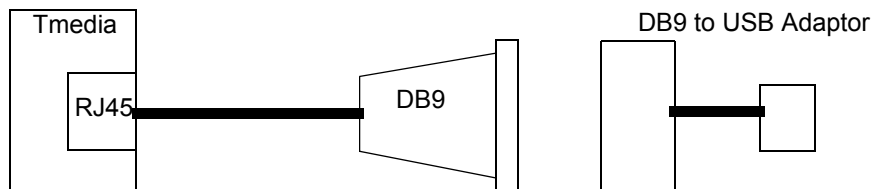

Figure 3.2 Conceptual View of a Serial Connection from the Tmedia VoIP Gateway to a Computer
2. If your computer's serial port features a DB9 connector, use the DB9 to RJ-45 adapter supplied with your Tmedia VoIP gateway. If your computer's serial port features a USB connector, you will need to provide a USB to DB9 adaptor. Refer to figure 3.2 on page 40.